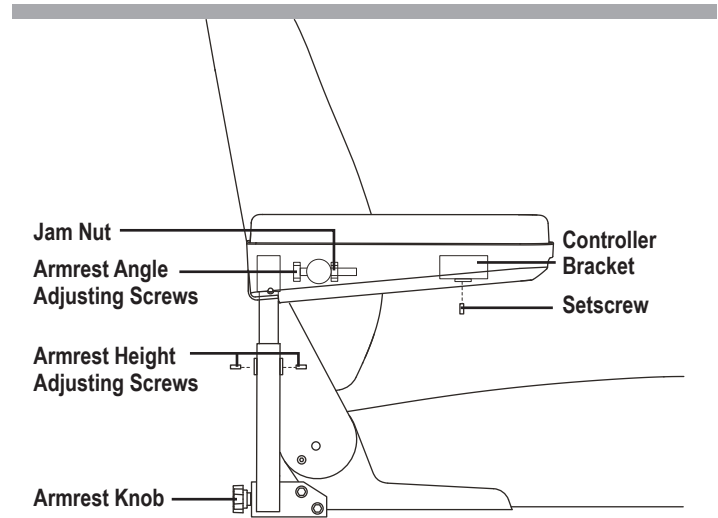

Figure 14. Seatback/Armrest Adjustment
1. Locate the two armrest knobs on each side of the armrest receiver bracket. **See figure 14.**
1. Lift the armrest straight up so that it is perpendicular to the floor. **See figure 14.**
1. Loosen the two setscrews located on the armrest receiver. **See figure 14.**
2. Loosen the setscrew on the controller bracket. **See figure 14.**